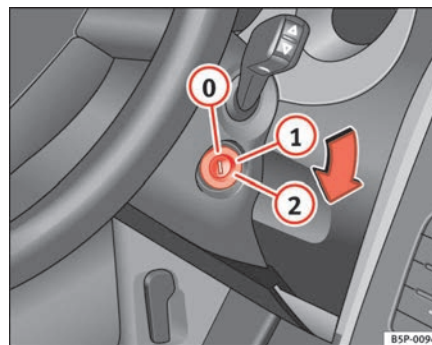

Fig. 100 Ignition key positions
In the position ⇒ fig. 100 the ignition and the engine are OFF and the steering may be locked.
- Turn the ignition key to position ⇒ page 132, fig. 100 ①. The indication lamp  will light for engine pre-heating.
- When the warning lamp goes out, turn the key to position ② to start the engine. Do not press the accelerator.
- Turn the ignition key to position ⇒ page 132, fig. 100 .